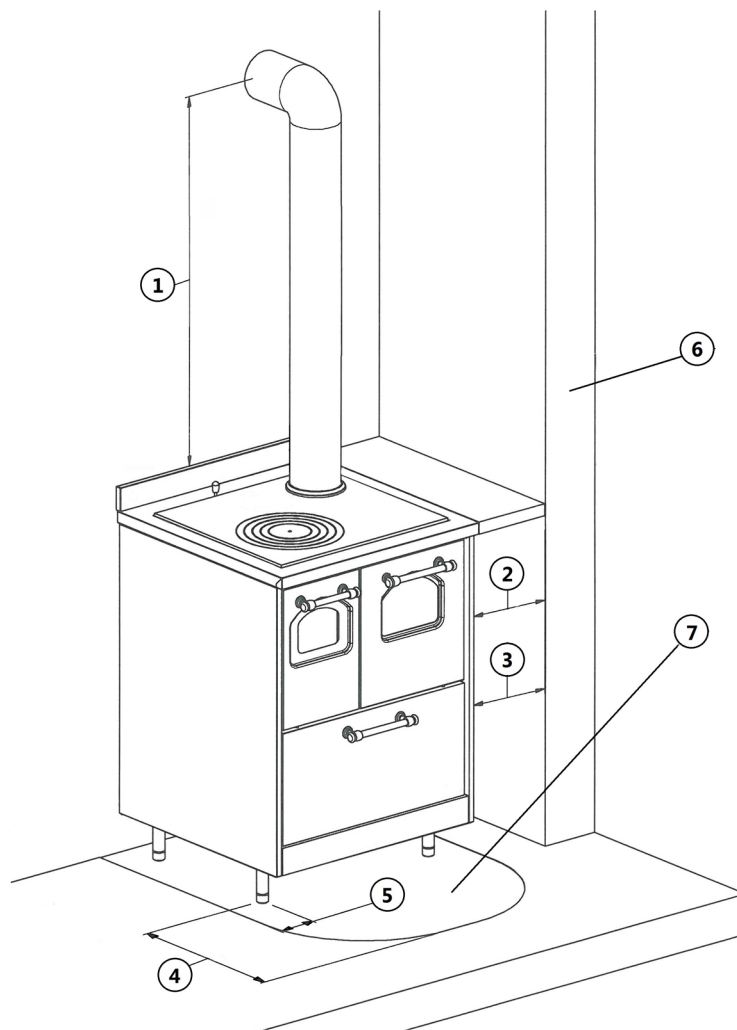

Fig. 25 - Distances from walls
LEGEND	Fig. 25 page 24
- In the last two cases, the side wall over the the cooktop must be at a minimum distance of (see **Fig. 25 page 24**) from the stove border.
- If the floor is made up of flammable material, an unburnt material cover must be realized (steel plate, refractory, marble...). For cover dimensions see **Fig. 25 page 24**.